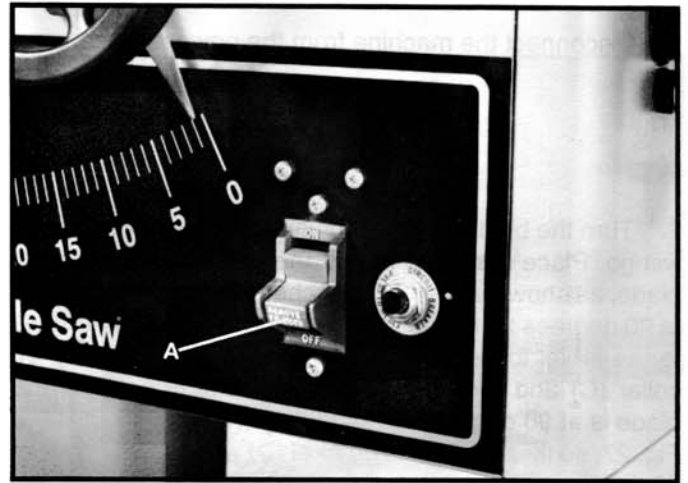

Fig. 23
The switch (A) is located on the front panel of the saw cabinet, as shown in Fig. 23. To turn the saw "ON" move the switch to the up position. To turn the saw "OFF" move the switch (A) to the down position.